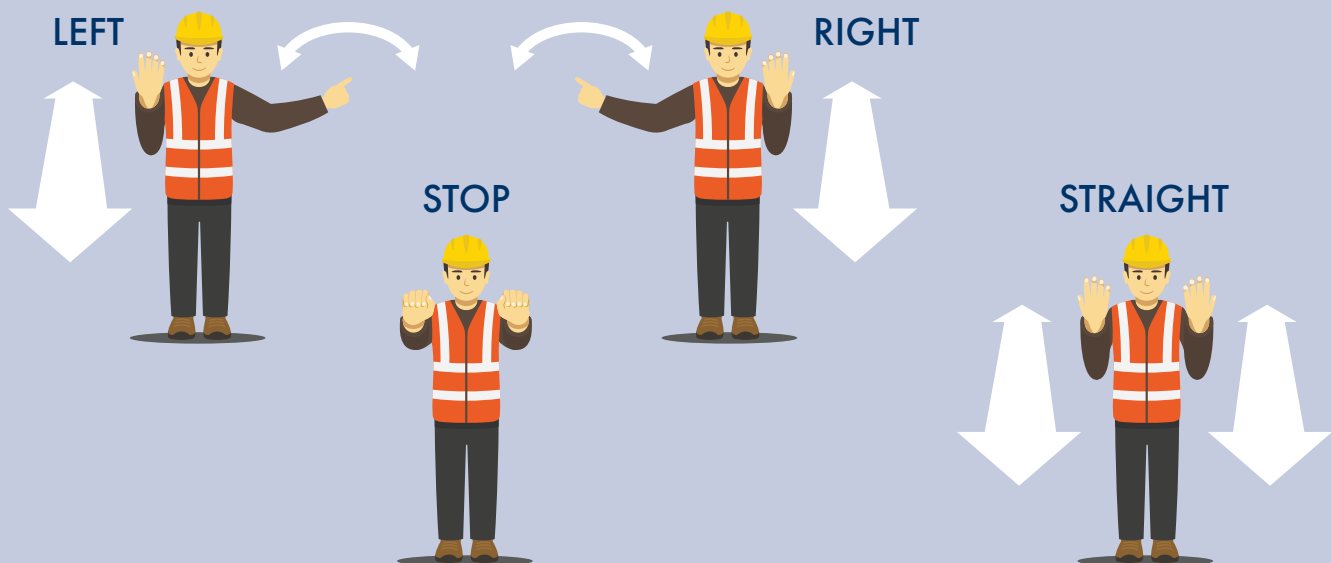

Figure 1: Drivers and spotters should use recognizable hand signals when verbal communication is difficult.
3. **Use a Spotter.** This technique is commonly used by companies that require employees to travel together in a vehicle at all times. For this to be effective, strict training must be conducted with the driver and the spotter. In many incidents, a spotter has been injured while guiding a vehicle during a backing maneuver. The driver and the spotter must use mutually agreed-upon hand signals, like those in Figure 1, since verbal communication may be impossible.